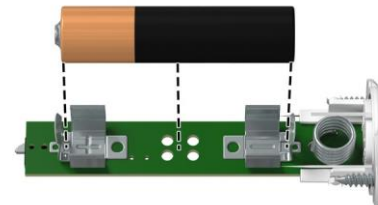

FIGURE 5
4. Remove the battery for a few seconds. Replace the battery back (verify the polarity and insert properly + and - marked on the battery terminals, see Figure 5).